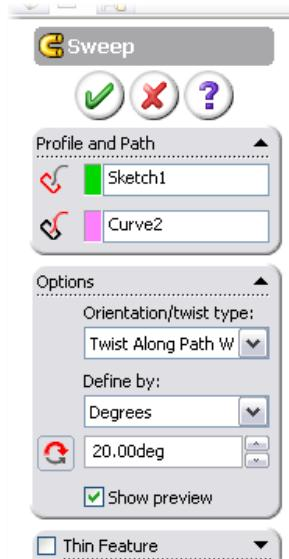

Figure 5: Sweep Options.
- Sketch 1 should be the profile. Curve 2 should be the path. You must open up the “Options” tab and from the drop down menu labelled “Orientation/twist Type” select “Twist Along Path with Normal Constant.” Select 20 degrees of twist. This is shown in Figure 5